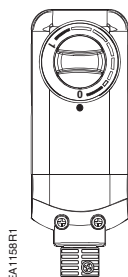

Figure 10. Position Indicator (Shown in 0 Position).
2. Turn the manual position indicator on the top of the actuator to the 0 position (Figure 10).
Check the wiring and the position indicator (Figure 10).